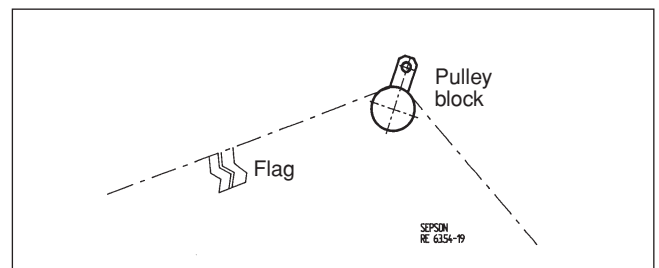

Fig 19 Marked rope
When you are not certain of the weight of the load, always use a pulley block, see fig 19. This will reduce the required pulling force and enable you to control the work better. It will also reduce wear on both winch and rope.
- Mark the rope with flag or similar half way along it when a lot of rope has been pulled out. See fig 19.